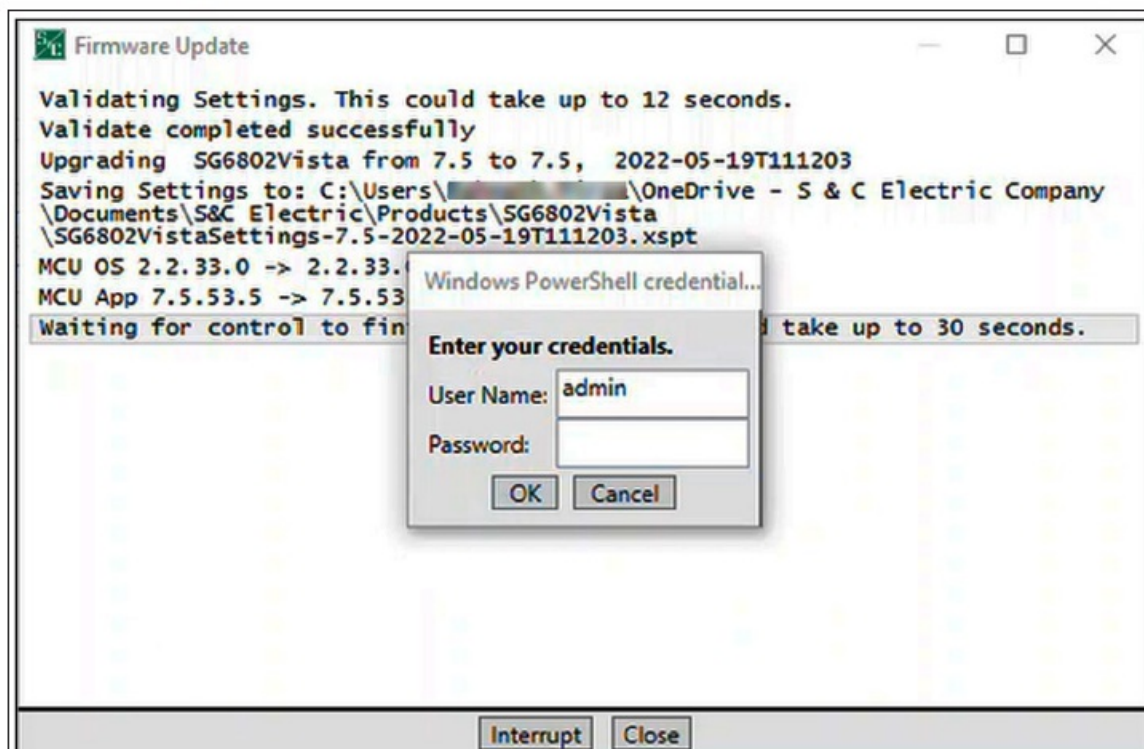

Figure 24. The Windows Powershell Credential dialog box.
- **STEP 12.** If the Windows PowerShell Credential dialog box appears, enter the User Name and Password, and click on the OK button. Contact the Global Support and Monitoring Center at [888-762-1100](tel:888-762-1100) if assistance is needed. See Figure 24.